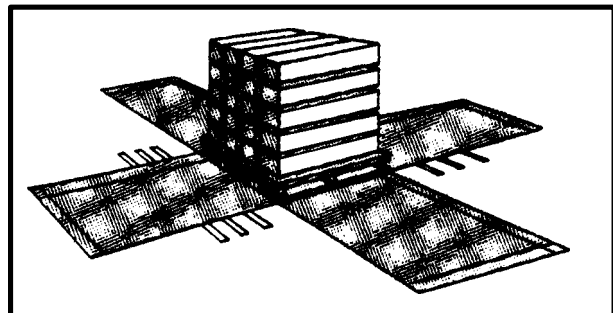

Figure 8-2. Centered Load
and Figures 8-2 through 8-6 explain how to rig an A-22 cargo bag:
**c. Positioning the Load.** Center the load on the canvas/nylon cover (Figure 8-2). Place the load so that any